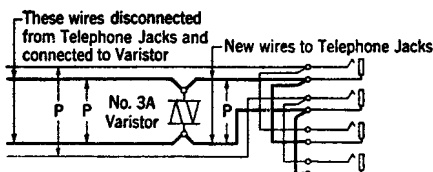

Fig. 3 - Connections for P.B.X.'s
3.06 Connect the leads to the varistor and telephone jacks as indicated by Fig. 3.
4.03 Inspect all wiring and check to see that the connections have been made in accordance with Figs. 3, 5, 8 or 10.